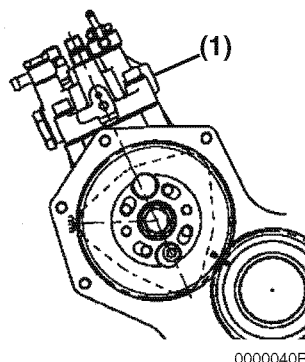
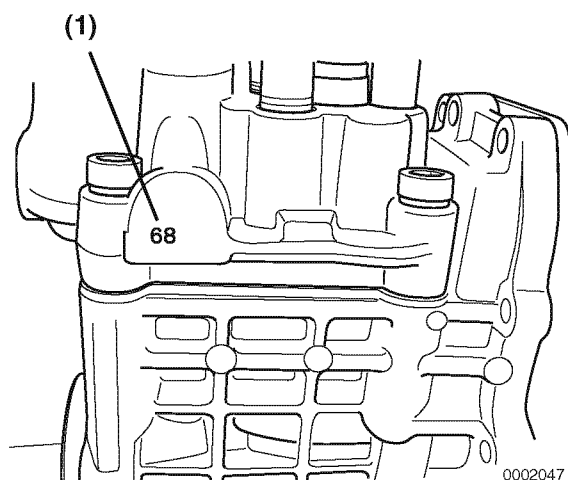

Figure 7-38
Figure 7-39
1. Locate and record the fuel injection pump timing index number (**Figure 7-39, (1)**) stamped into the boss on the engine side of the fuel injection pump housing (**Figure 7-38, (1)**). Treat this number as though there is a decimal point between the two digits. i.e. 68 = 6.8